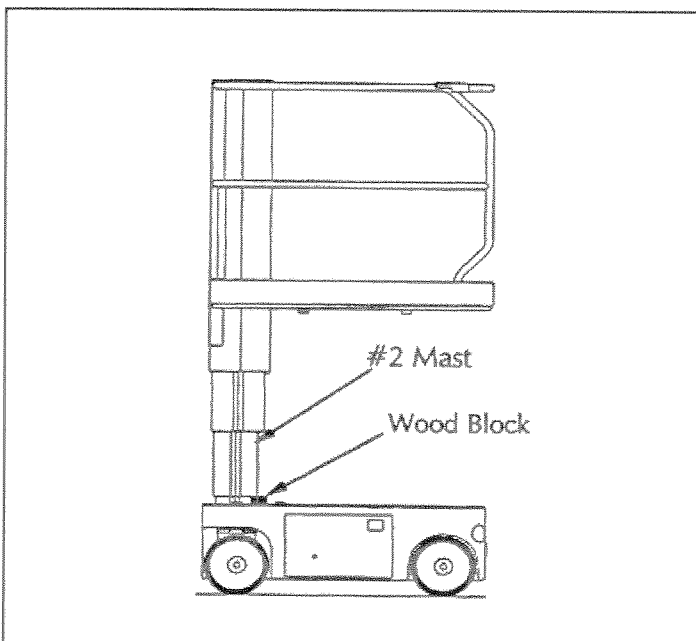

Figure 3-1: Blocking the Elevating Assembly
## 3.2 Blocking Elevating Assembly (Figure 3-1)
6. Push Chassis Lift Switch to **DOWN** position and gradually lower Platform until the #2 Mast is supported by the block (Figure 3-1).